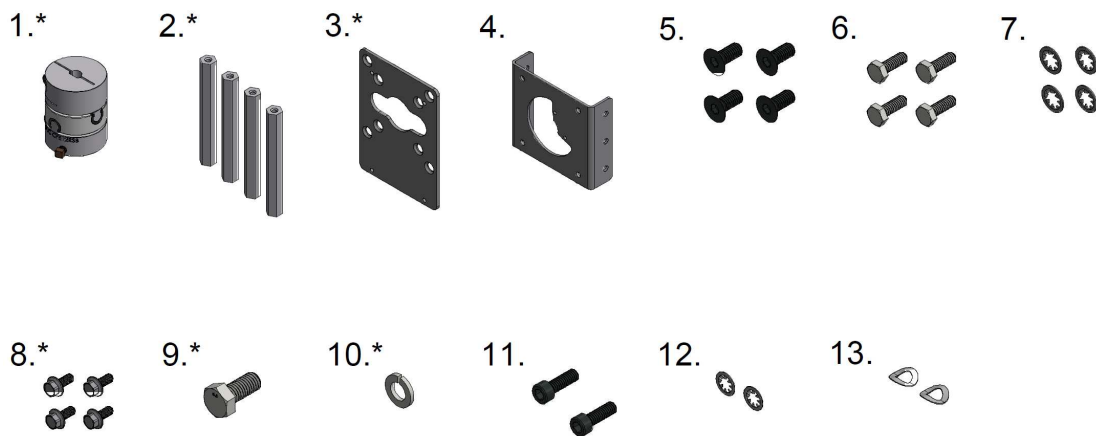

Figure 1: Components Supplied with a BR-OV-S... Bracket / Coupling Kit
Figure 1 shows the components supplied with a BR-OV-S... bracket / coupling kit:
* Component varies depending on the BR-OV-S... bracket / coupling kit. Image shown in Figure 1 may not be representative of actual component.